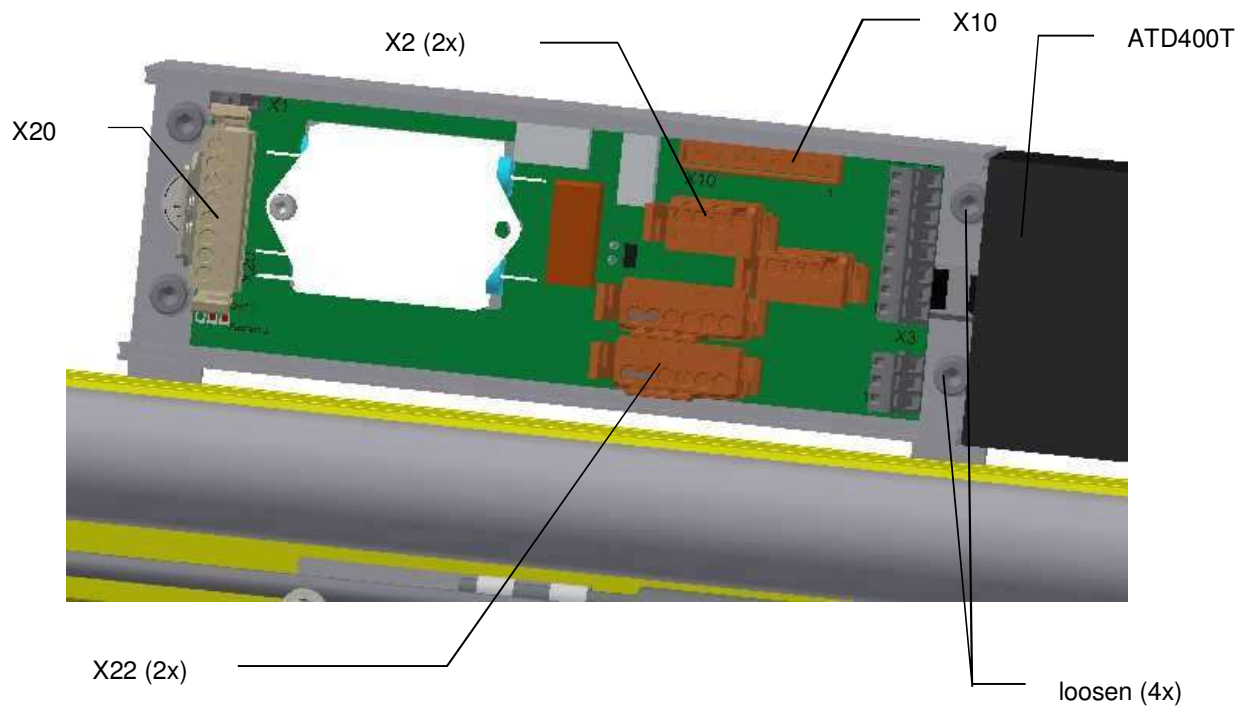

Figure 24: I/O board and connectors
- 4) Unplug all connectors (X2, X10 and X22) on the board (Figure 24).
- 7) Unscrew the board from the two holders (4 screws; Figure 24).